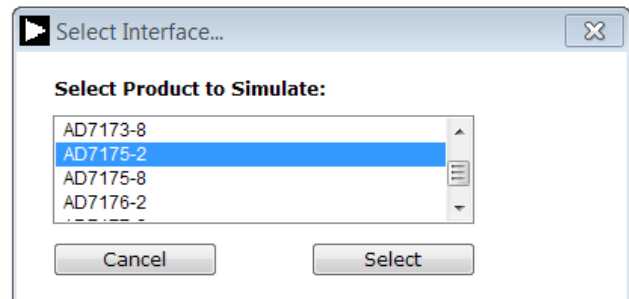

Figure 15. Evaluation Board Selection Simulation
- The AD717x Eval+ software can also be used without connecting hardware. Click the **Simulation** button and the options shown in Figure 15 appear. The simulation mode uses a model and allows the **AD7172-2**, **AD7172-4**, **AD7173-8**, **AD7175-2**, **AD7175-8**, **AD7176-2**, or **AD7177-2** to be evaluated.